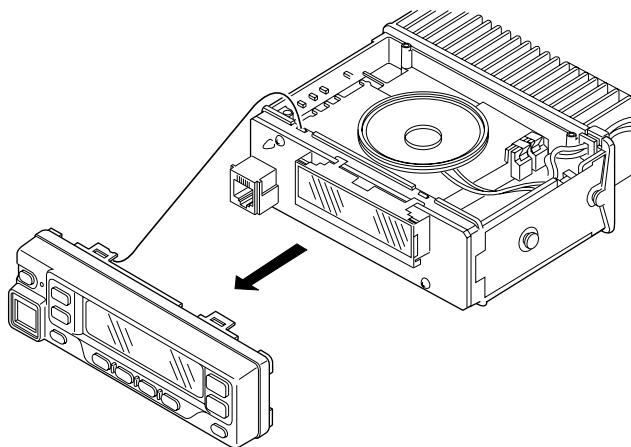

Fig. 6
1. Remove the control panel and the TX-RX unit (B/2) control section. (Fig. 6)